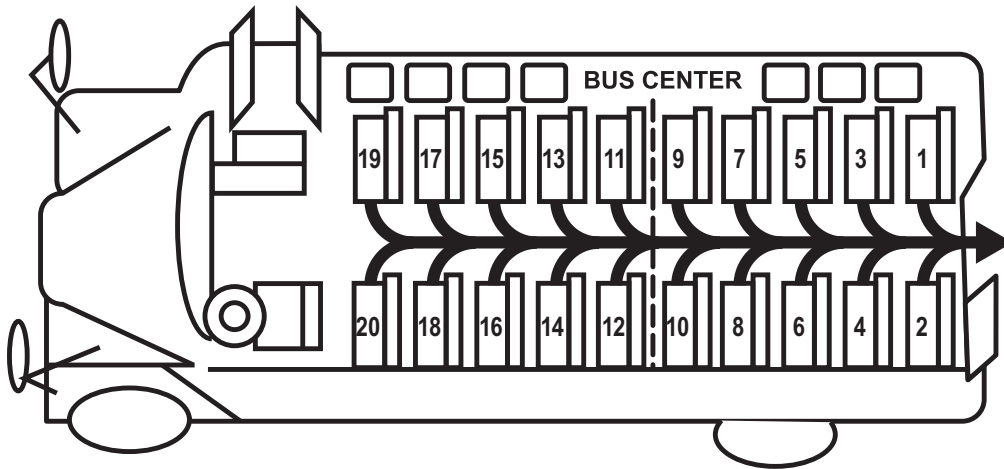

Figure 12-3. Evacuation Order for Rear Door Evacuation.
- For a rear door exit, students will evacuate in the following order: right back seat, left back seat, and the rest of the seats from right to left until the bus is empty (Figure 12-3).